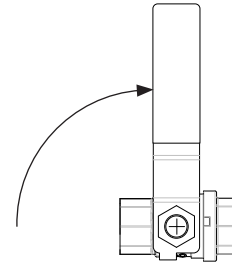

Figure 45: Supply valve closed
2. Located on the TIREMAAX controller, **turn** the Supply valve (if equipped) to the closed position (Figure 45).